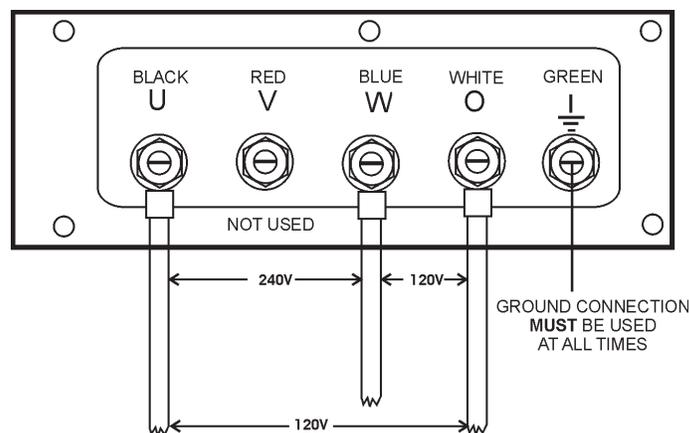

Figure 30. Output Terminal Lugs 1Ø-240/120V Connections
2. Connect the load wires to the **Output Terminal Lugs** as shown in (Figure 30).